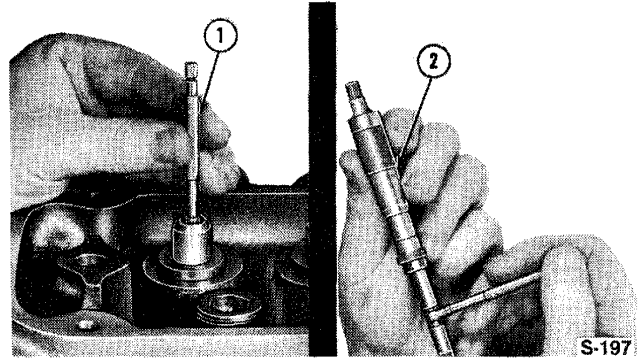

**Figure 16**
- Using a telescope gauge and micrometer, determine the valve to guide clearance, Figure 16. Measure the guide bores at right angles to the engine axis, and subtract the valve stem diameter. If the clearance exceeds the specified limits, see "Specifications" — Chapter 3, ream the valve guide to fit the next oversize valve.